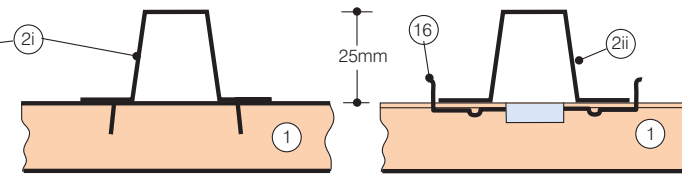
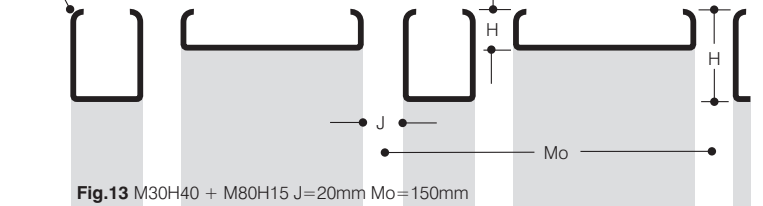

Fig.2 OMEGA carrier (2i) in cross section.
Fig.13 M30H40 + M80H15 J=20mm Mo=150mm
MODULAM ceilings contain continuous open joints (J). These can be closed on site by fitting one of the closure strips (9) (Fig.7). Different profiles can be combined, using a compatible carrier (2i) (Fig.2), to produce stepped ceiling sections like that seen in Fig.13. Other contouring is achieved by employing a flexible carrier (8) (Fig.3). Joint widths between MODULAM profiles ref. M85H13 and M85H20 can be varied, if necessary, in the manner described opposite.